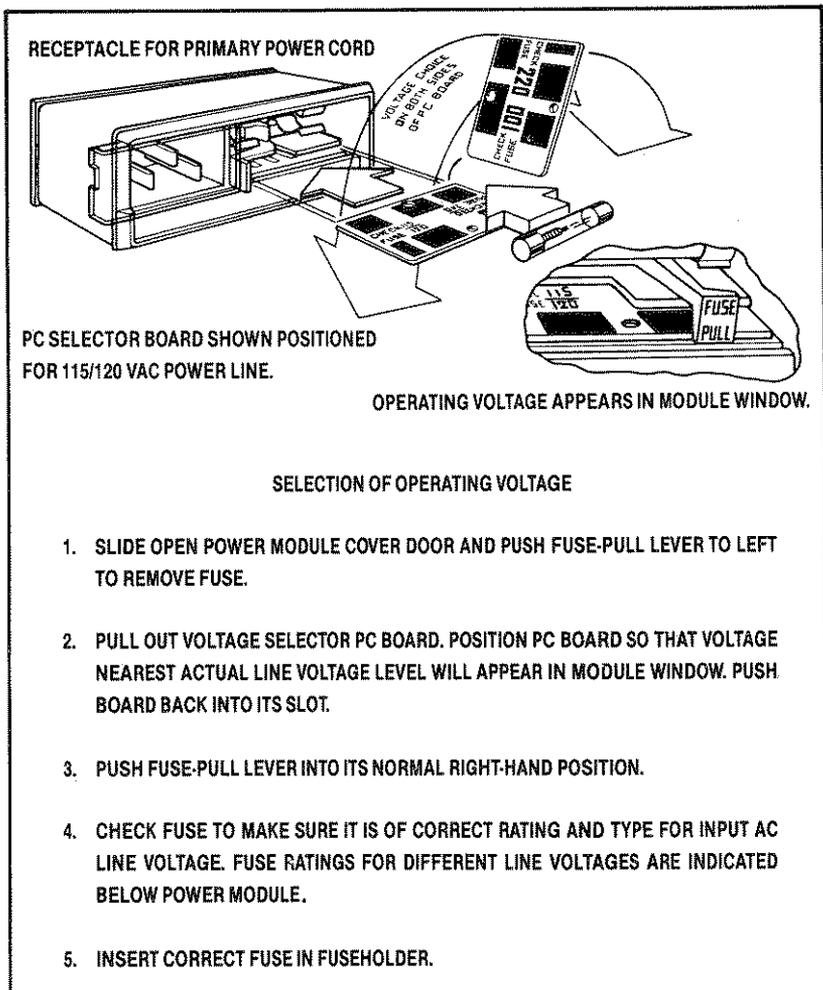

FIGURE 3. VOLTAGE SELECTION WITH POWER MODULE PC BOARD
2. Position the power line module PC Selector board (on the rear panel of each instrument section) as shown in Figure 3. If the line voltage is not within the instrument requirements, you must use an autotransformer between the ac source and the HP 8566B.